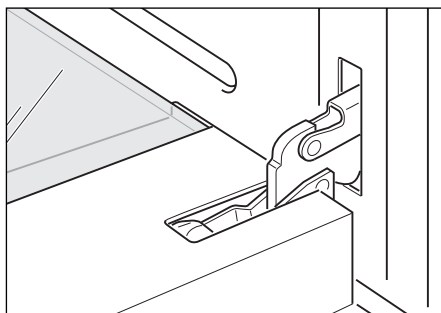

Fig.21a
- Fully open the oven door (Fig. 21a).
- 1 Make sure the door is locked open (see Figs 21a - 21c)